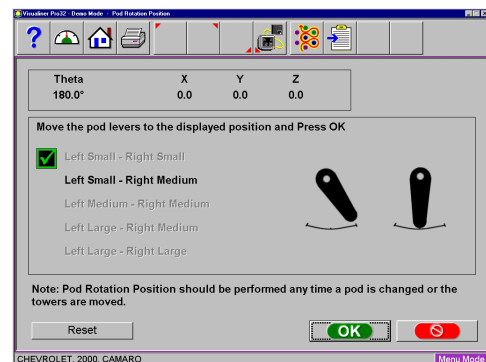

Figure 30
3. After clicking on “OK” as indicated in step 2, the camera rotation levers change positions. Move the camera levers to the position shown and click on **<OK>**. (Figure 30)